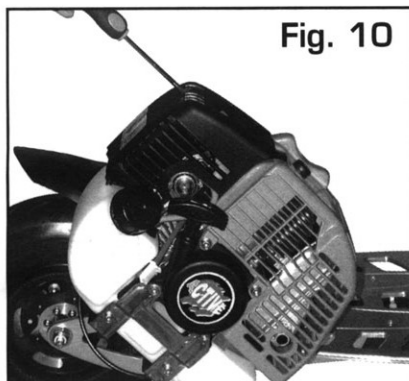

Fig. 10
1. Using a Philips head screwdriver, remove the carburettor cover by turning the cover screw counter clockwise. (Fig. 10).